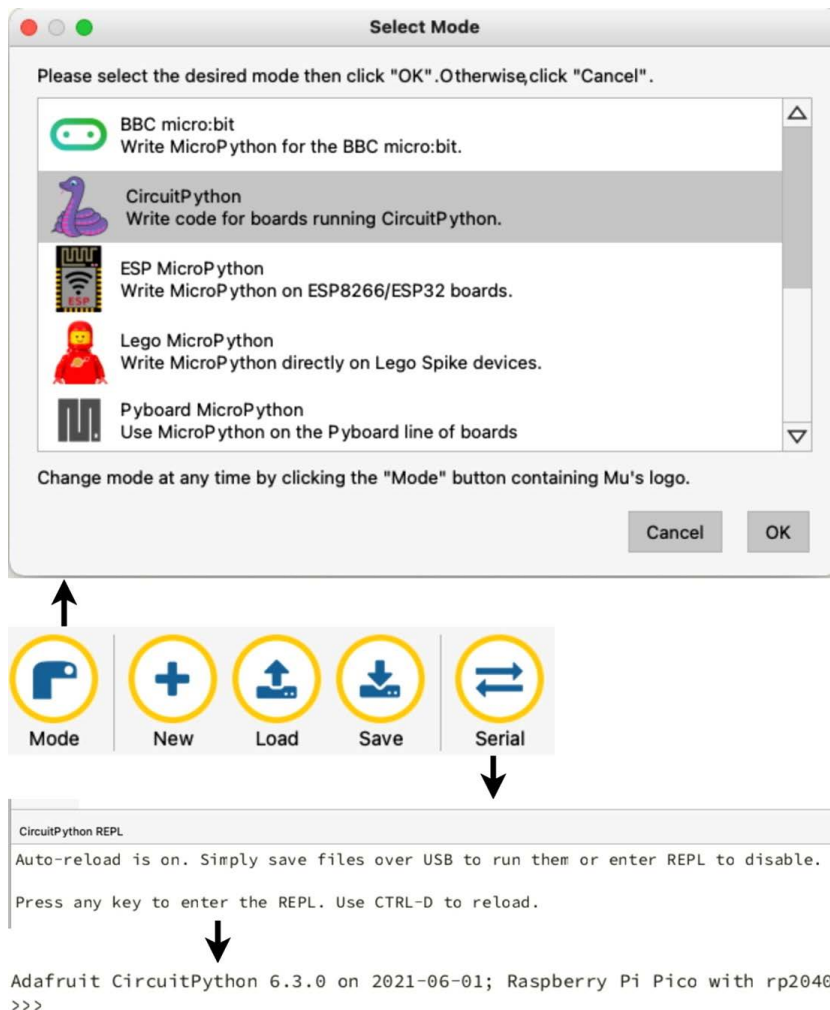

Figure 2.2 – Mu editor buttons
4. To start interacting with Pico directly, click in the **Serial** window, shown below the **Serial** button in *Figure 2.2*. When you type or press keys here, they are sent directly to Pico. Pico is waiting for you to interact with it.
5. On your keyboard, press any key to start the REPL. You will see a Adafruit CircuitPython message, as shown at the bottom of *Figure 2.2*. We can start typing code here.